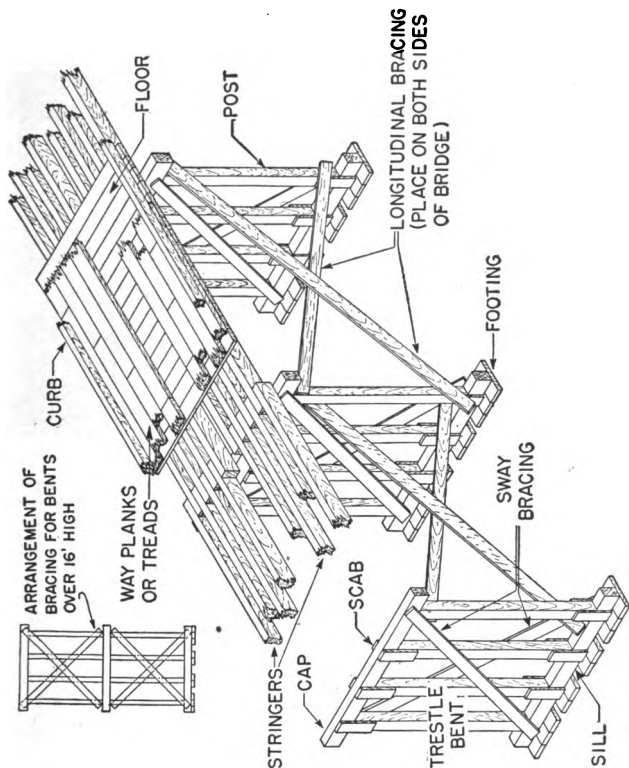

FIGURE 115.—Standard wooden trestle-bent bridge.
d. Bent.—Built-up intermediate support in bridge (see fig. 115).
b. *The trestle-bent bridge* consists of two or more stringer spans. The supports between the abutments are trestle bents. (See fig. 115.)